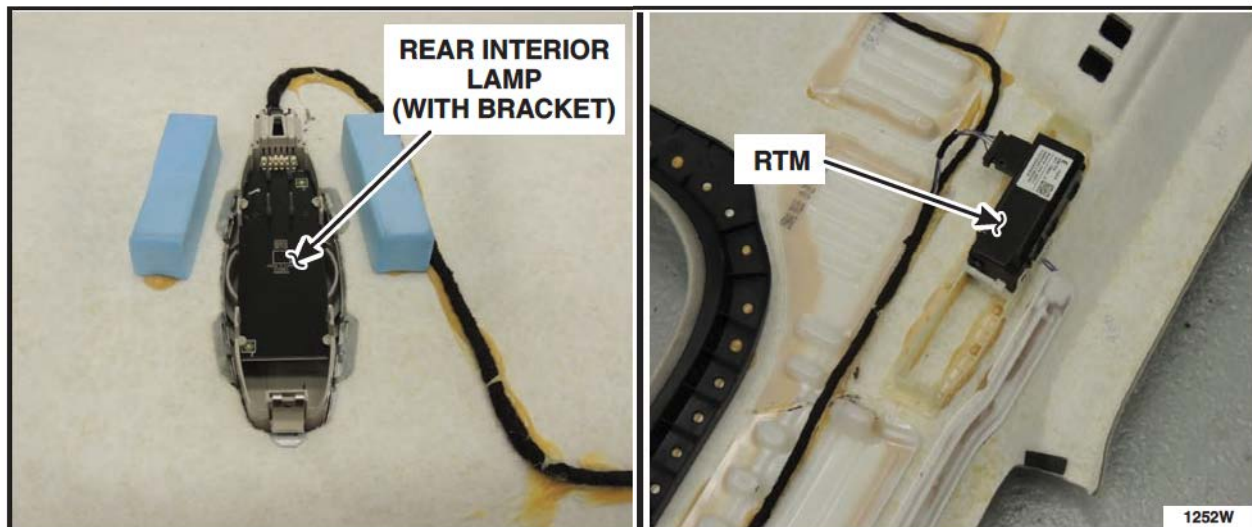

FIGURE 20
4. Transfer the rear interior lamp, Radio Transceiver Module (RTM) and brackets to the *new* headliner. See Figure 20.